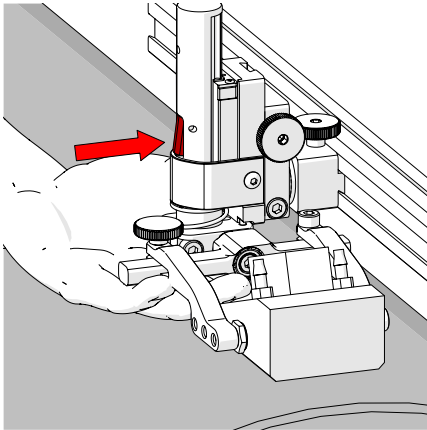
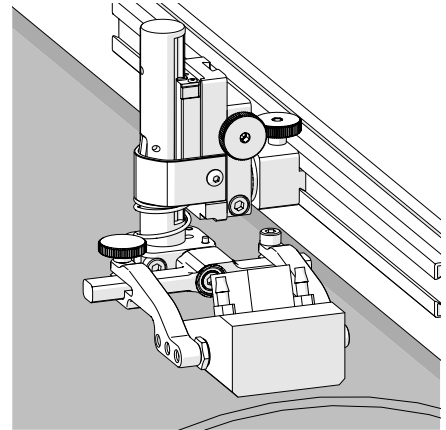

Fig. 40 - Press latch button
Fig. 41 - Lower toward scan surface
4. Lift the yoke slightly and press the latch button (Fig. 40), then slowly lower towards scanning surface to apply spring pressure to the wedge (Fig. 41).